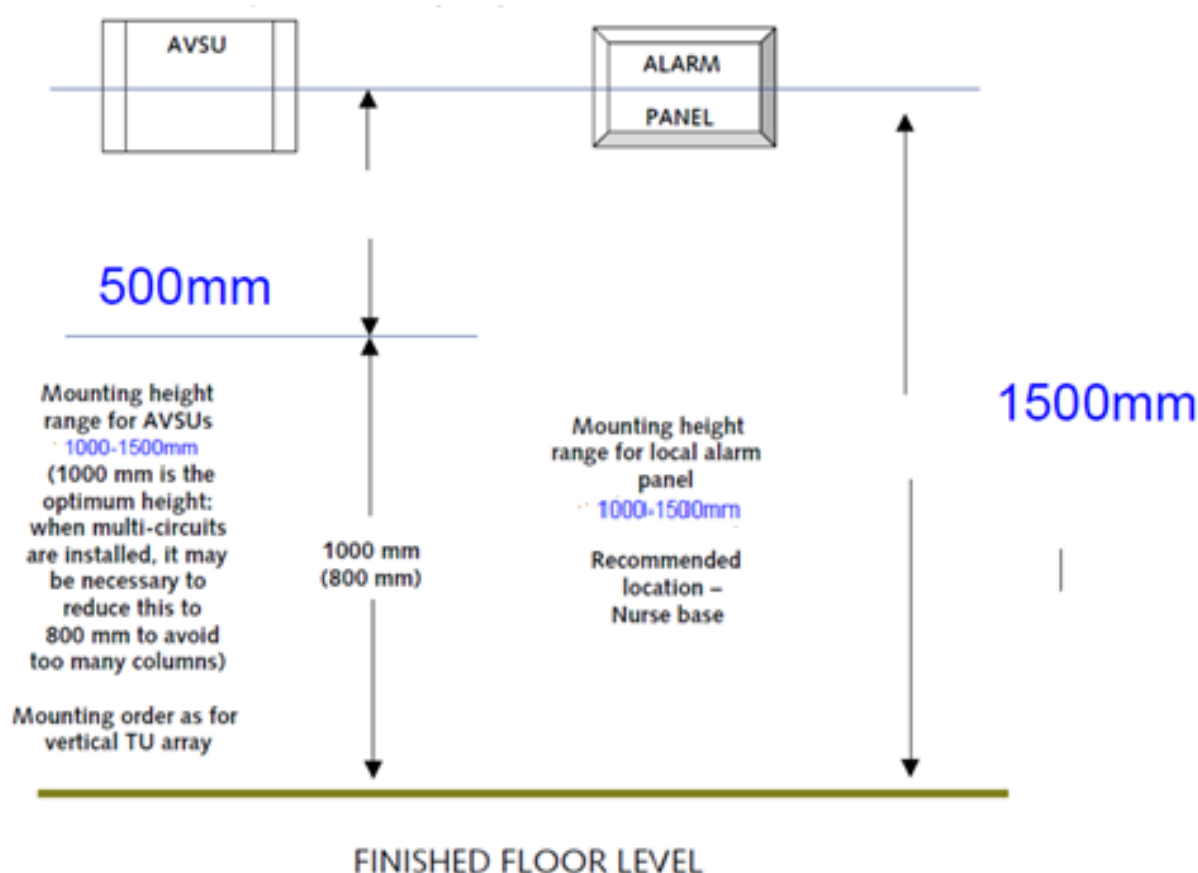

Figure 7.1 –Panel Installation Details
- The installation height requirements of the panel for healthcare facilities in DOH, shall be as per figure 7.1 below. This height is based on the comfortable average heights for nurses within DOH facilities.